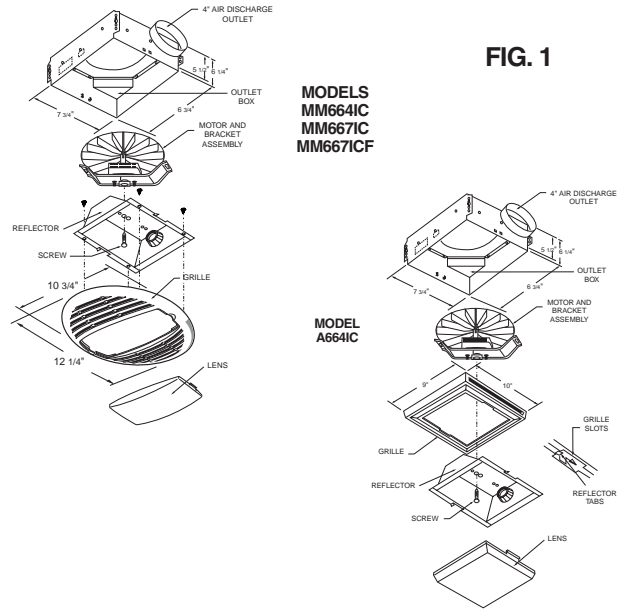

FIG. 2
1. Attach duct adapter to housing by first inserting pin on duct adapter into round hole in top of housing, then pivot and align two locking tabs with small rectangular holes. See Fig. 2. Press tabs firmly into holes to lock.